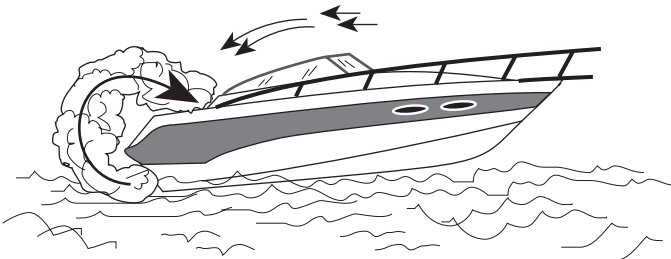

FIGURE 1.6 BACKDRAFTING - AIR FLOWS OVER BOAT AND BEHIND TRANSOM
Backdrafting or the "station wagon effect" is caused by air movement over or around a boat creating a low pressure area of suction area around the stern which can increase CO level on the boat. Backdrafting can be affected by relative wind direction, boat speed, and boat trim angle. (See Figure 1.6.)
3. Canvas configurations - under various conditions, adding or removing canvas may raise or lower CO levels. (See Figures 1.6, 1.7, 1.9.)